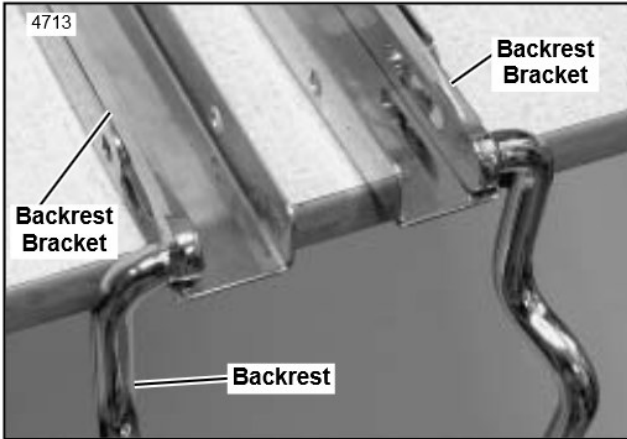

Figure 2. Position Backrest
2. See Figure 2. Place the backrest upside down inside the inner channels so that it overhangs the edge of the table and the grooves on the backrest bracket are aligned with the holes on the cutout side of the inner channels.